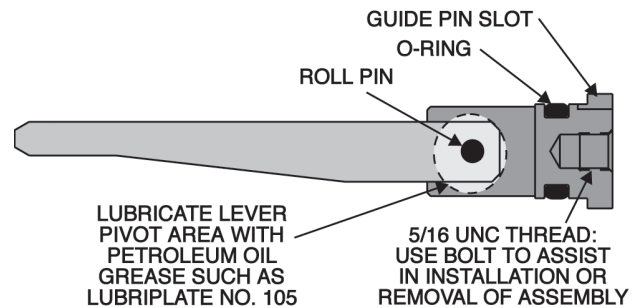

Figure 23
1. Place a lubricated O-Ring onto the Pivot & Lever Assembly as shown below. Also lubricate the area where the lever pivots on the roll pin with a petroleum grease such as Lubriplate No. 105® (refer to Figure 23).
- Loosely screw a 5/16"-18 UNC bolt into the threaded area on the Pivot & Lever assembly to help push it into the Pilot Body. A guide pin assures the Pivot & Lever assembly is correctly oriented in the Pilot Body. Unscrew and remove the bolt when complete (refer to Figure 23 & 24).